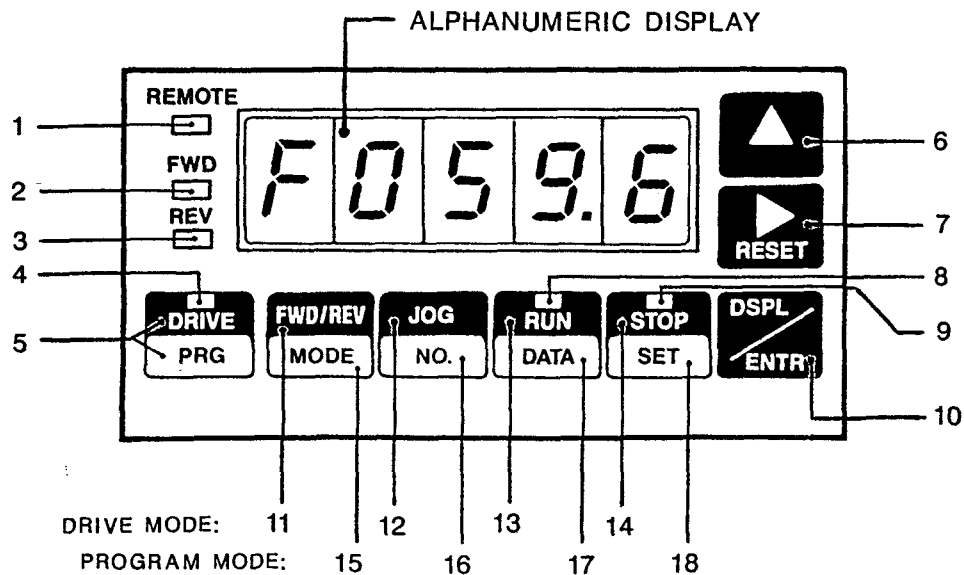

Figure 7. Digital Operator Keypad
- A two-colored key (see Figure 7) is marked on the top half with the function it performs in the Drive mode, and on the bottom half with the function it performs in the Program mode (see paragraph 3.2).